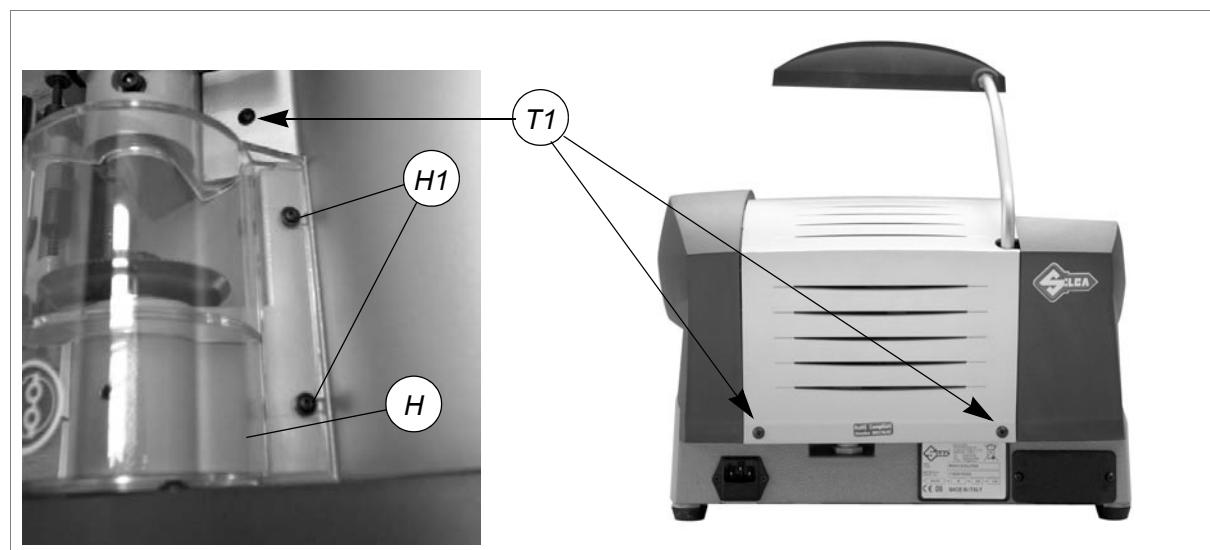

Fig. 39
- 2) Loosen the 2 screws (H1) on the cutter cover (H) and remove (fig.39).
- 2) Loosen the 2 screws (H1) on the cutter cover (H) and remove (fig. 39, page 28).
- 3) Loosen the 3 screws (T1) on the central cover (fig. 39), raise slightly and remove, tipping a little.
- 7) Replace the central cover and fix with the 3 screws (T1) (fig. 39, page 28).
- 3) Loosen the 2 screws (H1) on the cutter cover (H) and remove (fig. 39, page 28).
- 4) Loosen the 3 screws (T1) on the central cover, raise slightly and remove, tipping a little (fig. 39, page 28).
- 19) Replace the central cover and fix with the 3 screws (T1) (fig. 39, page 28).
- 20) Replace the cutter cover and fix with the 2 screws (H1) (fig.39).